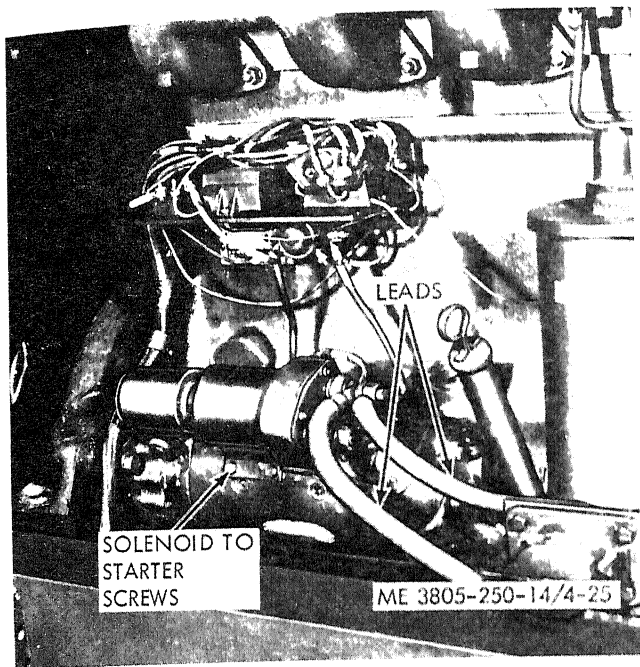

Figure 4-25. Solenoid replacement.
(1) Remove two nuts (fig. 4-25) securing the leads to the solenoid. Tag the leads for proper installation.